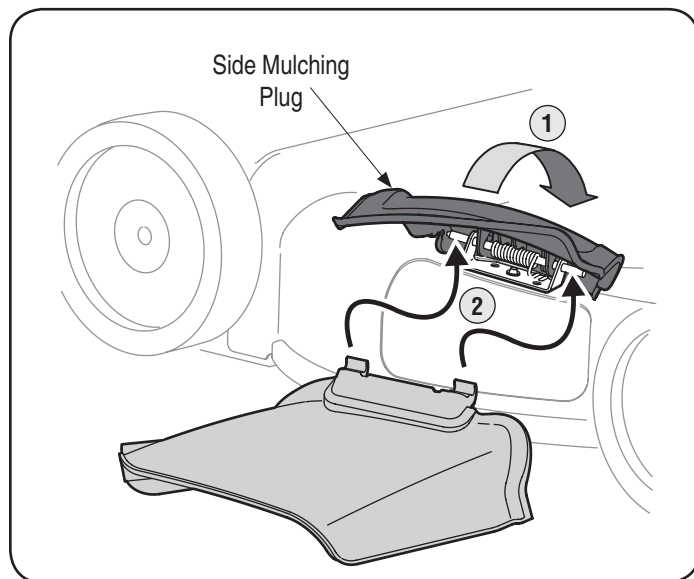

Figure 9
1. On the side of the mower, lift the side mulching plug. See Figure 9.